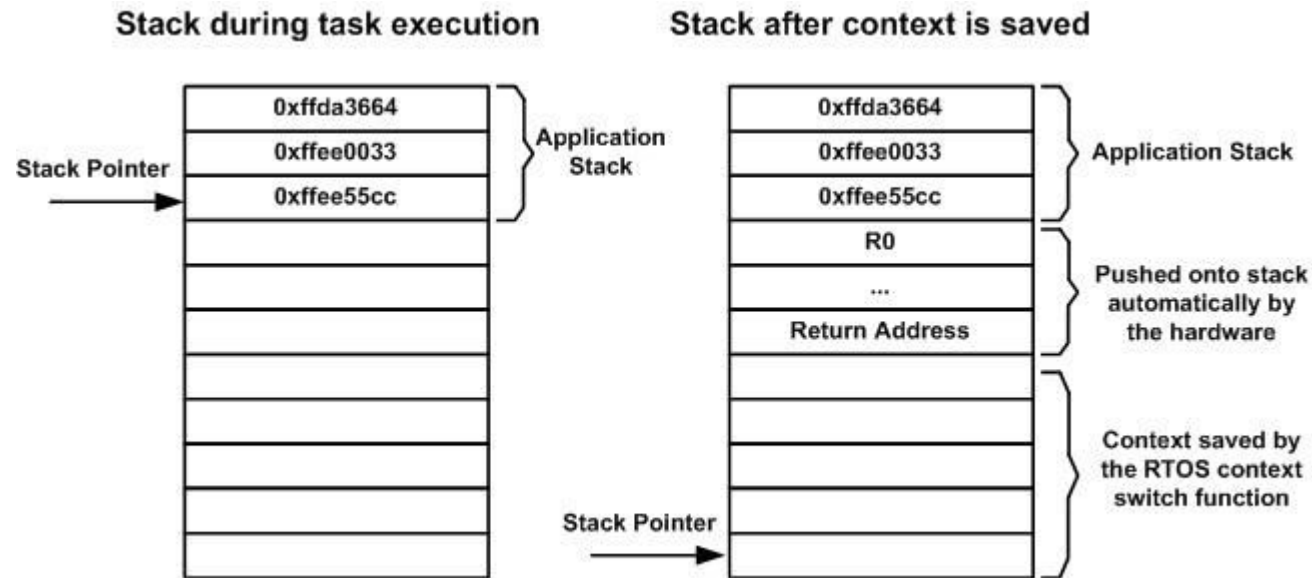

Fig. 2 Stack content before and after saving of task state (context)
4. An RTOS handler function for the tick exception stores any additional registers that are part of the current task state (see Fig. 2).